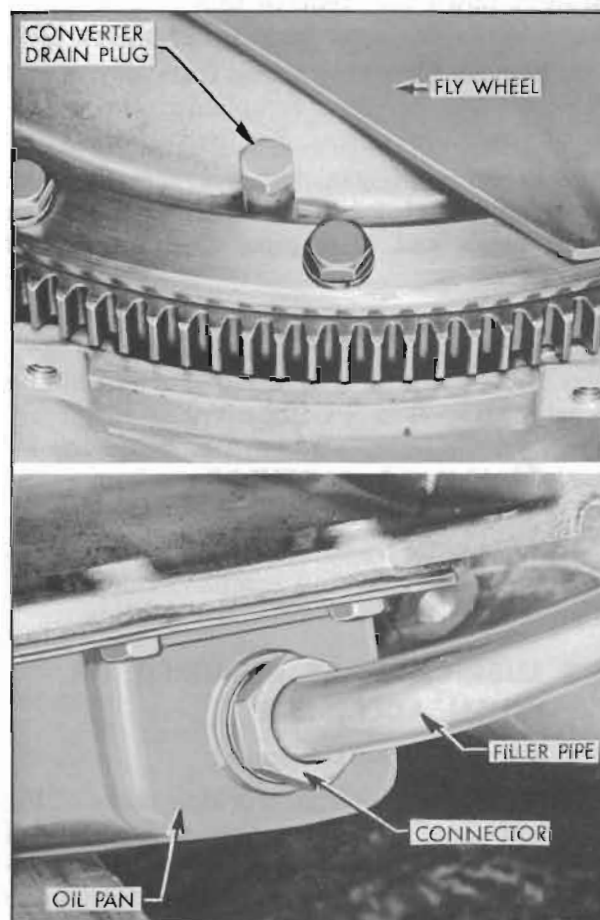

Figure 1-15—Automatic Transmission Drain Points
2. Loosen one converter drain plug, then turn converter until opposite drain plug is straight down and remove this plug to allow converter to drain completely. See figure 1-15.
3. Remove filler pipe fitting from oil pan and allow oil pan to drain completely. *Do not remove accumulator caps.* See figure 1-15.
5. Put 3 quarts of specified oil (subpar. a.) in transmission. With engine idling and transmission in Parking (P) complete the refilling to bring oil level to "FULL" mark on gauge rod. When transmission oil is warmed up, the oil level should then be at "FULL" mark on gauge rod.